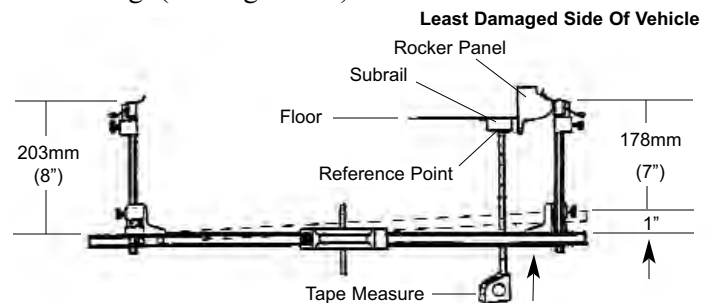

Figure 60
4. Raise the bar on the least damaged side of the vehicle 25mm (1 inch) and tighten the thumb screw on the scale housing. (See Figure 60.)